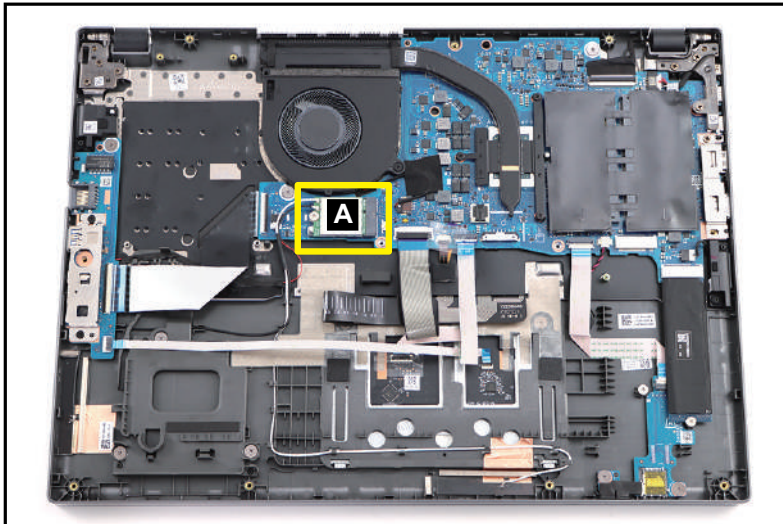

Figure 3-24. WLAN Module Location
1. Find the WLAN module (A) on the top assembly (Figure 3-24).